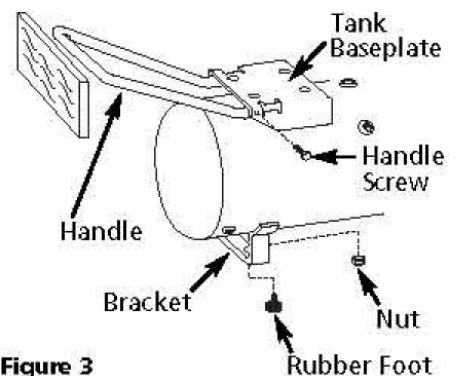

Figure 3
2) Insert the handle into both sides of the base plate. Squeeze handle to fit into the special openings in the plate (Fig 3).